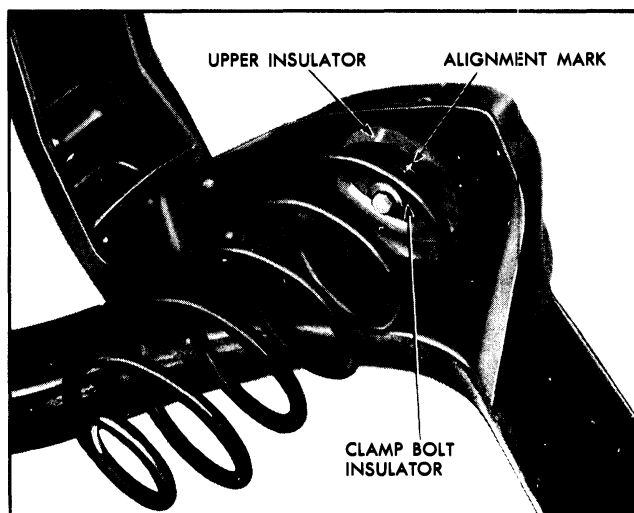

Fig. 3-33 Installing Rear Spring
13. Install upper bolt and clamp as an assembly into position on the frame. Turn spring, maintaining alignment of scribe marks, to give maximum clearance between front of rear spring and frame (Fig. 3-33). Install nut.
4. Clean and inspect rubber bushings (Fig. 3-33) and, if worn, replace.